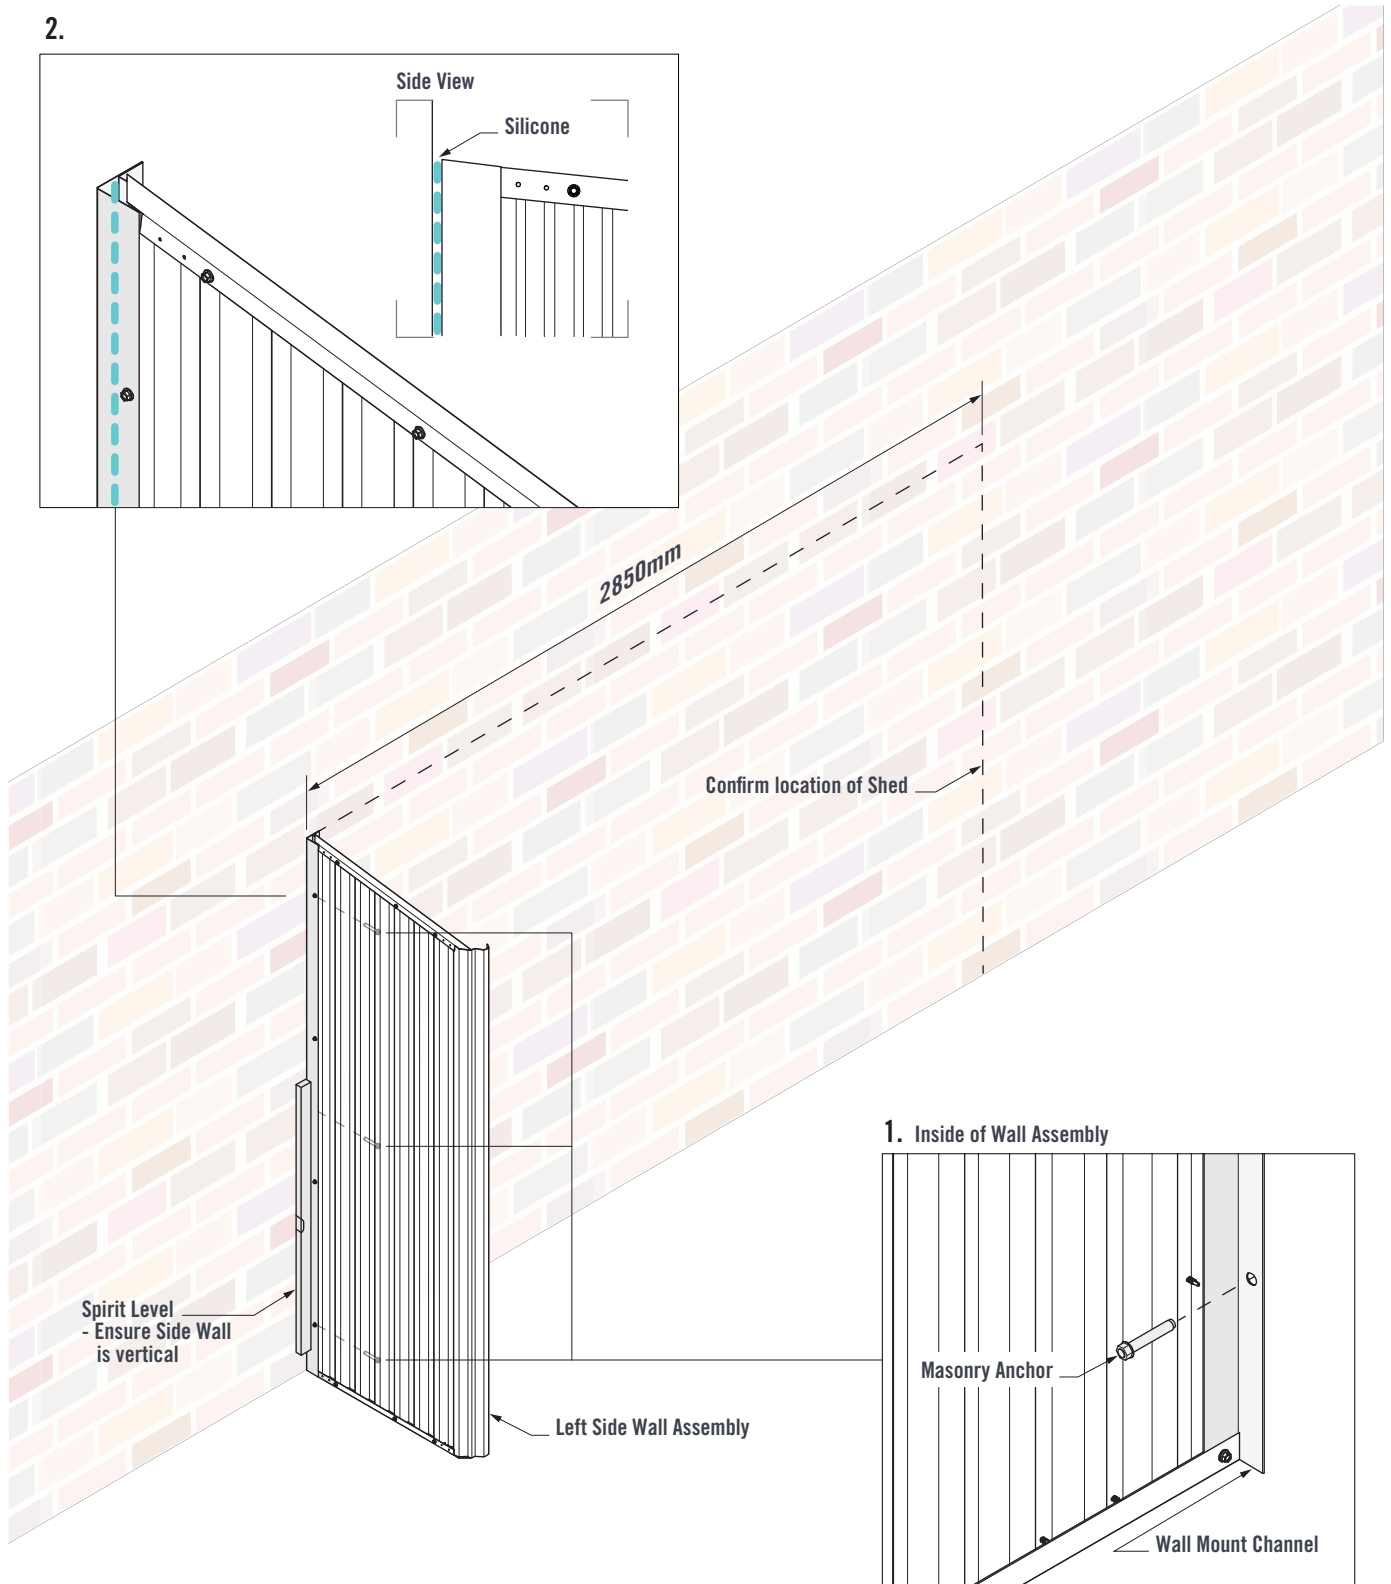

FIGURE 8.0
Confirm the location of the Shed against the building wall. Position the Left Side Wall Assembly against the building wall. Use a spirit level to ensure the Wall Assembly is vertical and square to the wall (Figure 8.0).
1. Mark and drill three 10mm holes through the pilot holes of the Wall Mount Channel and into the building wall. Loosely install three M10x47 Masonry Anchors (Figure 8.0).
2. Before tightening the Masonry Anchors, apply a bead of silicone between the Wall Mount Channel and building wall to prevent rain entering the shed (Figure 8.0).